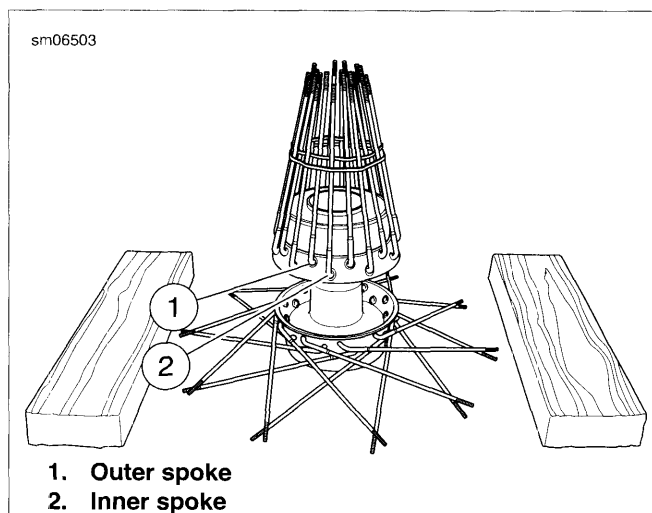

**Figure 2-21. Angle Flange Hub**
- See Figure 2-21. The following procedure is valid for 40-spoke wheels that use an angle flange hub regardless of rim style or diameter.